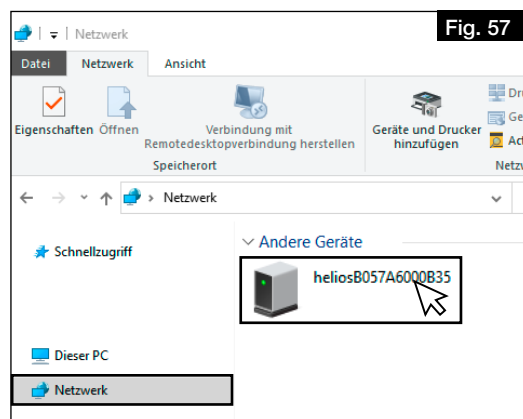

Fig. 57
2. Open desktop and click on Network, cf. Fig. 57.
3. Double-click on the corresponding unit, cf. Fig. 57.